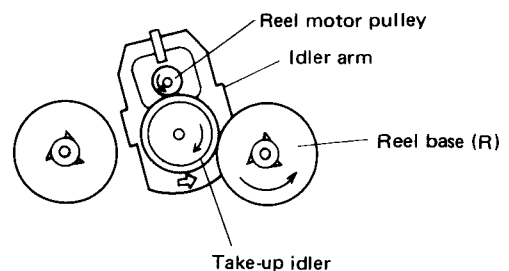

Fig. 4-8 Fast forward operation without MS mechanism
Without the MS solenoid and reel brake mechanisms, back-tension in the reel bases is obtained by constant application of a weak brake. The take-up idler is pressed against reel base (R) by the counterclockwise rotation of the reel motor, resulting in rotation of reel base (R) (Fig. 4-8).